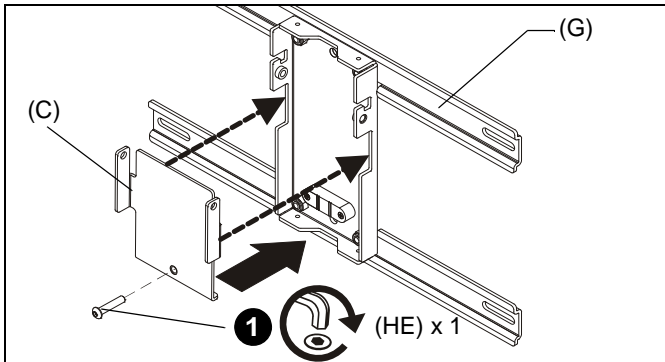

Figure 10
1. Attach arm adjust plate (C) to wall plate ensuring that adjust plate tabs fit into notches on wall plate. Insert and slightly tighten one 1/4-20 x 1-1/4" button head cap screw (HE). (See Figure 10)